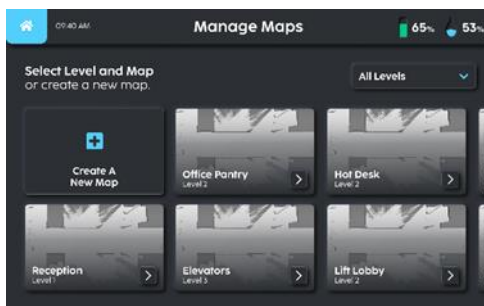

Fig 3
3. Select the robot map (Fig 3).